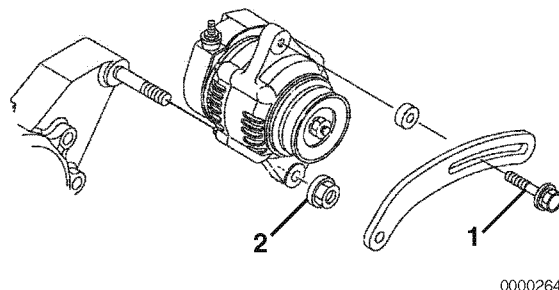

Figure 12-19
1. Position the alternator on the gear case. Loosely reinstall the nut (**Figure 12-19, (2)**) on the gear case stud and the V-belt adjuster bolt (**Figure 12-19, (1)**).